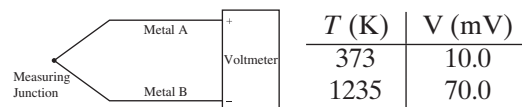

Figure P1.34 Thermocouple to measure temperature in Kelvin.
1-34. The voltage across a thermocouple is calibrated using the boiling point of water (373 K) and the freezing point of silver (1235 K), as shown in Fig. P1.34.
- (a) Using the calibration data given in Fig. P1.34, find the equation of the line for the measured temperature T as a function of the voltage V and determine the value of the sensitivity α and the reference temperature T_R .